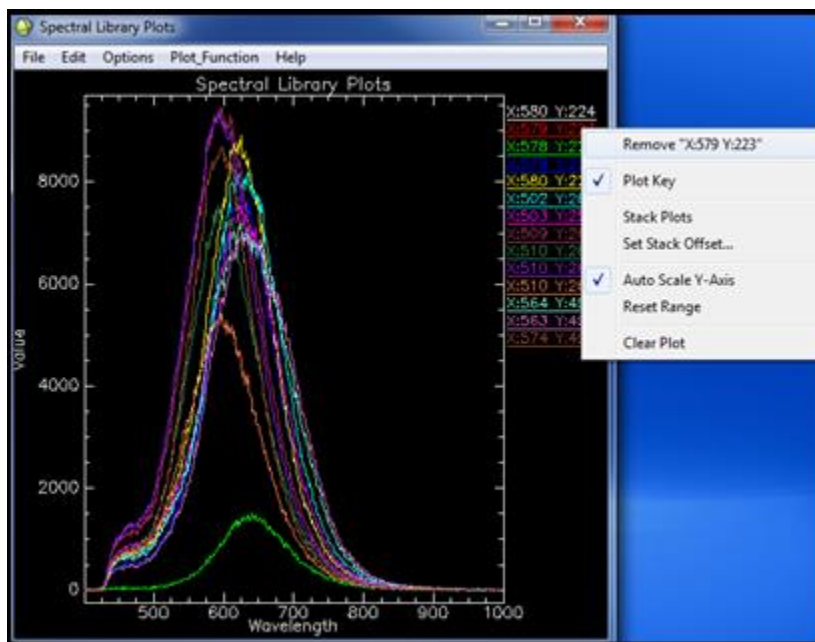

Figure 5.10d. Selection of spectra from plot key to be removed
- Then select Remove X: ### Y:###, for all spectra chosen (Figure 5.10d).